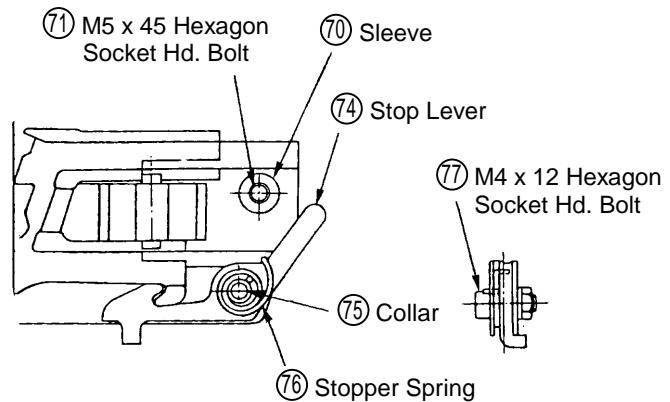

Fig. 18 Reassembly of the Stop Lever, Stopper Spring, etc.
(b) Reassembly: (see Fig. 18)
- As illustrated in Fig. 18, insert the Collar ⑦5 into the Stop Lever ⑦4, and mount the Stopper Spring ⑦6 with the M4 x 15 Hexagon Socket Hd. Bolt ⑦7 (see Para. 1-4 for tightening torque). At this time, the Stopper